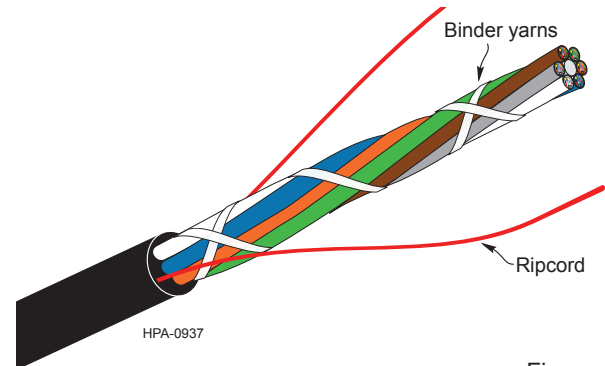

Figure 4
- Step 6:** With your fingers, remove the split pieces of outer jacket at the end of the cable to expose the ripcords and cable binder yarns (Figure 4).